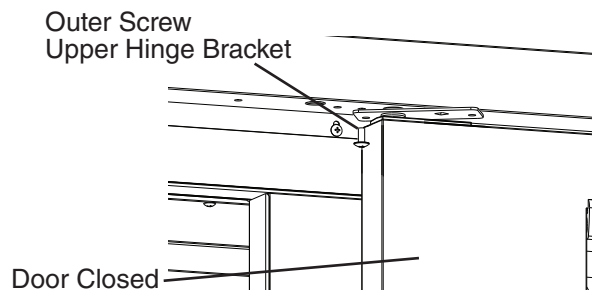

Fig. 12
- 12) Install the outer screw into the upper hinge bracket. Do not tighten the screw yet. Start the screw for a few threads only and leave loose. See Fig. 12. Note: The door being reversed must be in the closed position. However, the adjoining door may be opened for ease of access.